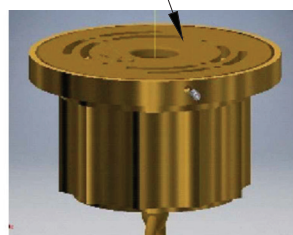

Fig.2
2. Take the canopy (A) and unscrew the sides to access the ceiling plate (B). Use the ceiling plates as a guide to locating the anchors on the ceiling. (Fig.2).